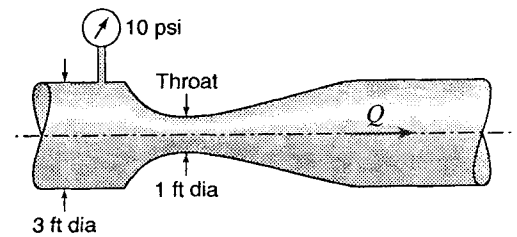

Figure S5.9
- 5.10.5 *Referring to Fig. S5.9, find the maximum theoretical flow rate for water at 70°C. Neglect head loss. The diameters are 800 mm and 400 mm respectively, the upstream pressure is 20 kPa, and the atmospheric pressure is 750 mmHg*